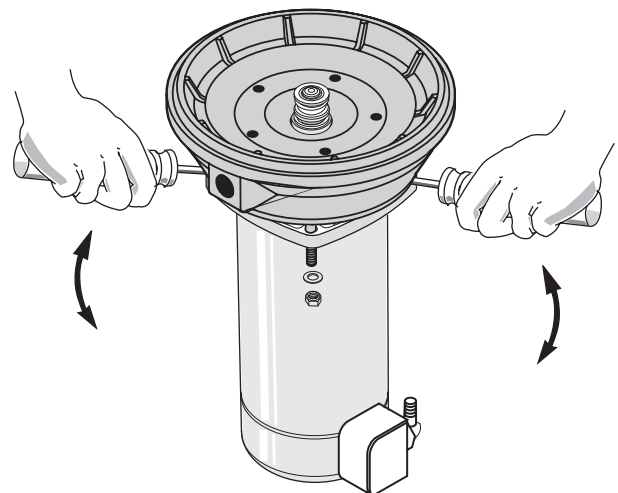

Figure 9
3. Remove pump back half from motor by unscrewing four (4) nuts. Pry back half off motor by inserting two (2) screwdrivers between the back pump half and the motor flange. This will force rotating portion of seal off shaft. See Figure 9.